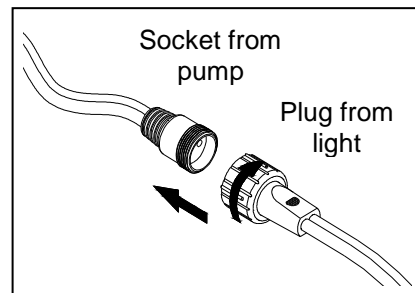

Fig. 2
2. Connect the light to the pump by pushing the plug into the socket until it is firmly seated. Hand tighten the nut from the plug to the socket. Fig. 2